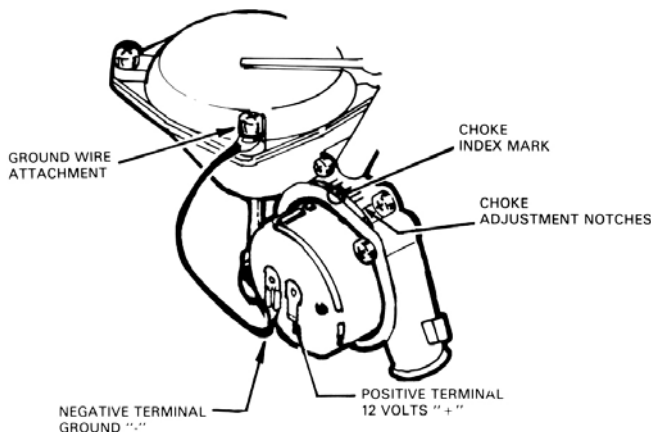

Figure 11
- NOTE:** Be sure the other connector is connected to a good ground. See Figure 11.
1. There will be an index mark on the choke cap and there will be adjustment notches on the choke cap housing. For initial setting make sure index mark is in the center of the adjustment notches. See Figure 11.